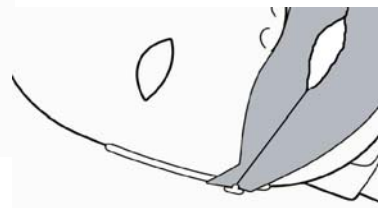

Figure 9
10. Attach the face shield tabs to the 'buttons' located on the side of the manikin head (Figure 9).